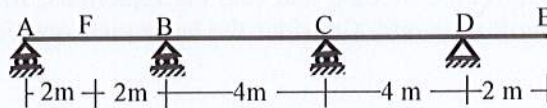

Fig.7
7. (i) Draw the qualitative influence lines of the beam shown in **Fig.7**, [15]
- (ii) Calculate the maximum value of M_F (Positive), if the beam (**Fig.7**) is subjected to a uniformly distributed dead load of 40 kN/m and moving a live load of 14 kN/m (uniformly distributed) and a moving load of 44 kN (concentrated) [Given: $EI = \text{constant}$].